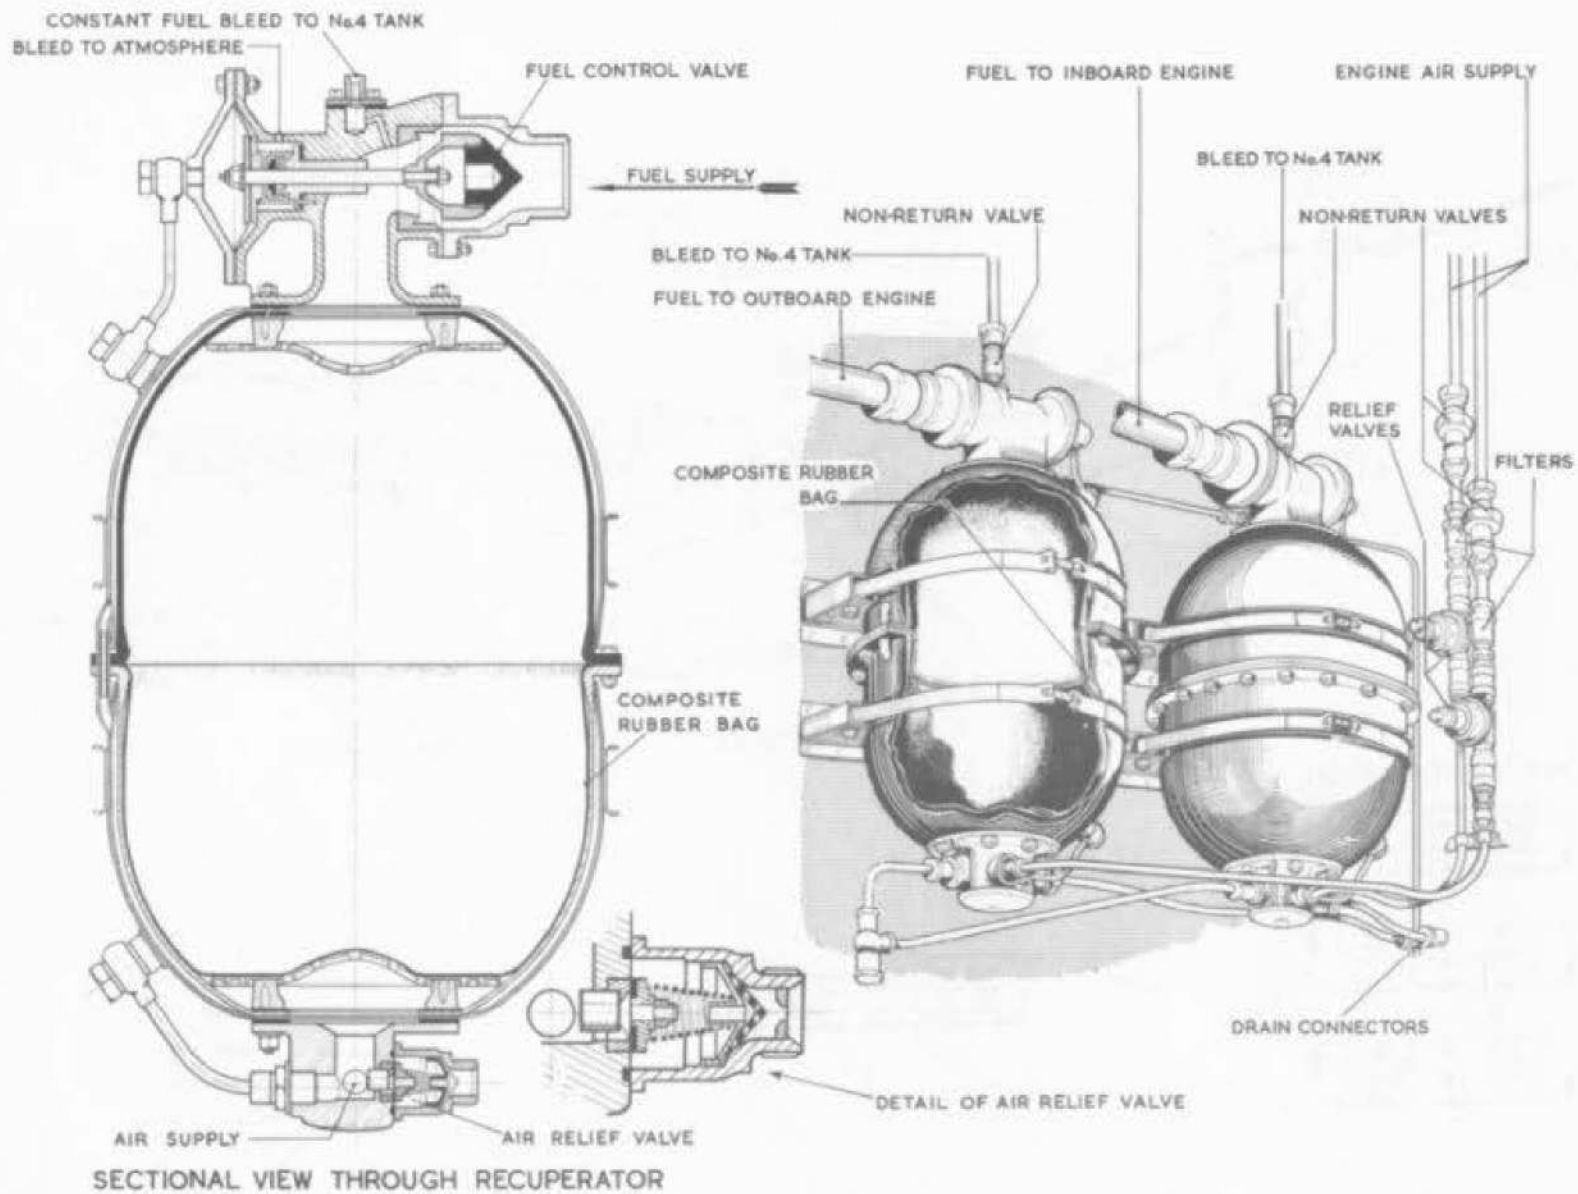

Fig. 6. Recuperator installation.
24. When the engines are started air passes to the lower side of the bag and, simultaneously, between the double walls of the recuperator to the diaphragm of the fuel control valve (normally spring-loaded to the closed position) causing the valve to open and allow fuel into the upper compartment of the recuperator; air contained initially in the recuperator passes through the bleed outlet, near the fuel control valve, to No.4 tank (fig.6).